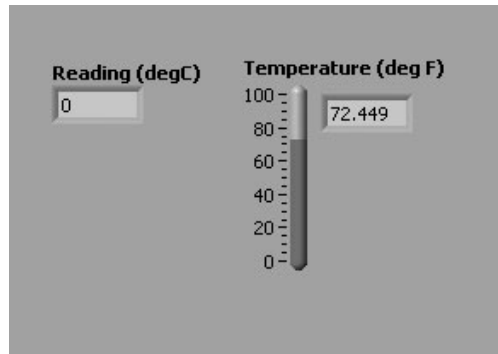

Figure 4.40
5. Remember, you can move controls and indicators with the Positioning tool to arrange them where you wish. Your front panel should look like the one in Figure 4.40.